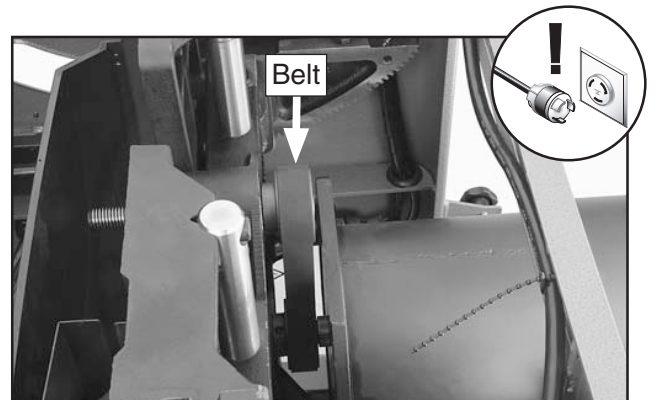

Figure 154. Belt installed.
9. Push the belt inward and roll it onto the top pulley. Continue pushing the belt and rotating it up and down until it is centered on both pulleys, as shown in **Figure 154**.